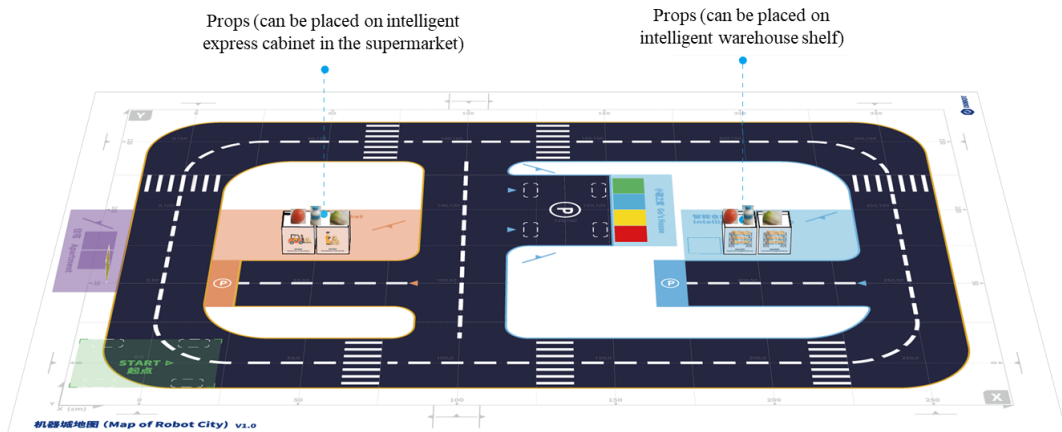

Figure 5.8 Position of props
4. Props include orange, cabbage and mineral water, as shown in Table 5.6. When simulating in supermarket or intelligent warehouse, please place the props according to Figure 5.8, and ensure that the props are placed on the placing boxes of intelligent warehouse shelf or the supermarket.